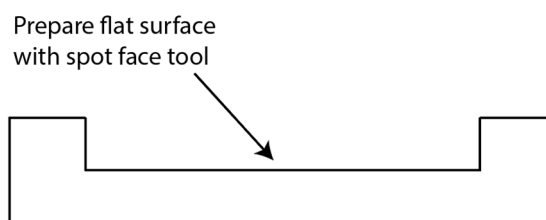

Figure 3.- Flat surface for fixing pad
2. If said surface has a radius of curvature lower than 150 mm, a smooth and flat surface is required, which can be obtained by milling or polishing the surface where the fixing pad is to be placed (Figure 3). It is highly recommended to make this process to ensure a strong bond between the module and the machine to be monitored.